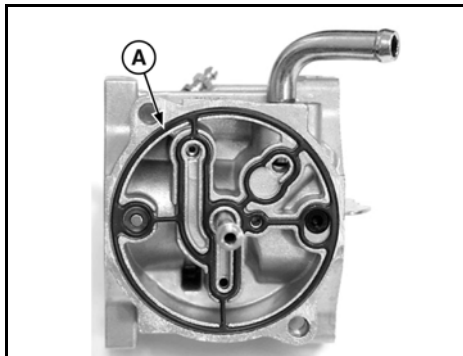
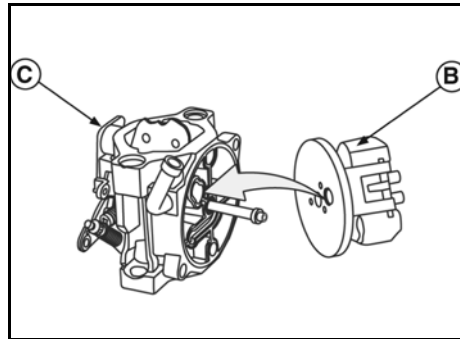

Figure 68
Figure 69
12. Install new o-ring on fuel transfer tube (E).
13. Place new float bowl gasket (A, Figure 68) on the carburetor body, then press the fuel transfer tube (B, Figure 69) onto the carburetor base (C).